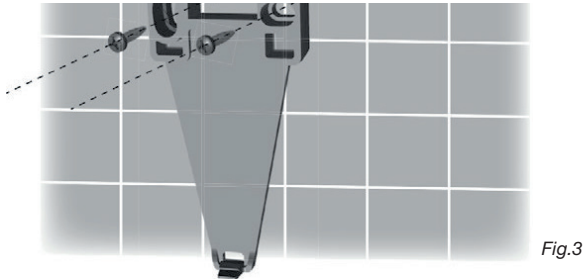

Fig.3
- Place the holder (hook) for the appliance onto the wall and mark the holes for fixing (fig. 3)
- Drill holes and install the fixing plugs in them then place the holder and tighten the screws (fig. 3)